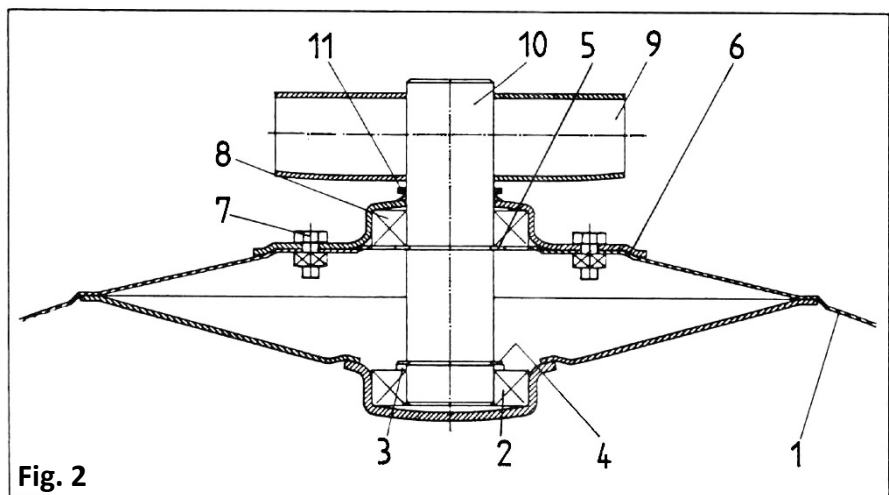

Fig. 2
#### S 180 /S 230 (Fig.2)
## Parts list for Fig. 2
Snap the circlip with the lug (5) and the circlip (4) into the recesses of the bearing bracket journal (10) (see Fig. 2).